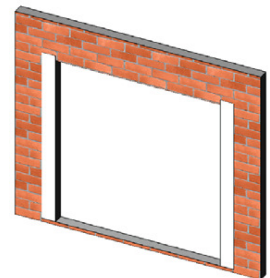

Figure 21:
2. At each jamb, embed the flashing paper into the sealant onto mounting flange and fasten into place. The flashing paper should be cut sufficiently long enough to extend at least 3 in. past the weep-screed flashing and at least 6 inches above the head of the product (Figure 21).